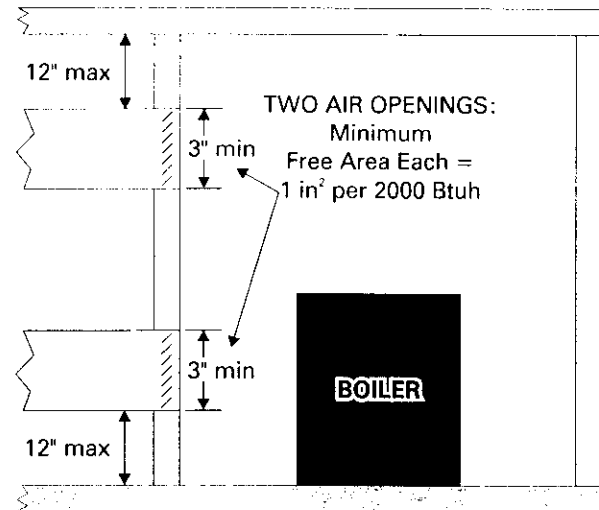

Figure 4: Air Openings – All Air from Outdoors through Horizontal Ducts
Where communicating with the outdoors through horizontal ducts, size each opening with a minimum free area of one (1) square inch per 2000 Btu/hr. of total input rating of all equipment in the enclosure. See Figure 4.
- ii) Where the equipment has clearances of at least one (1) inch from the sides and back and six (6) inches from the front of the appliance, the code allows one permanent opening, commencing within 12 inches of the top of the enclosure. Connect the opening directly with the outdoors or through a vertical or horizontal duct to the outdoors or spaces (crawl or attic) that freely communicate with the outdoors. Size the opening with a minimum free area of one square inch per 3000 Btu/hr. of the total input rating of all equipment in the enclosure, and not less than the sum of the areas of all vent connectors in the confined space.